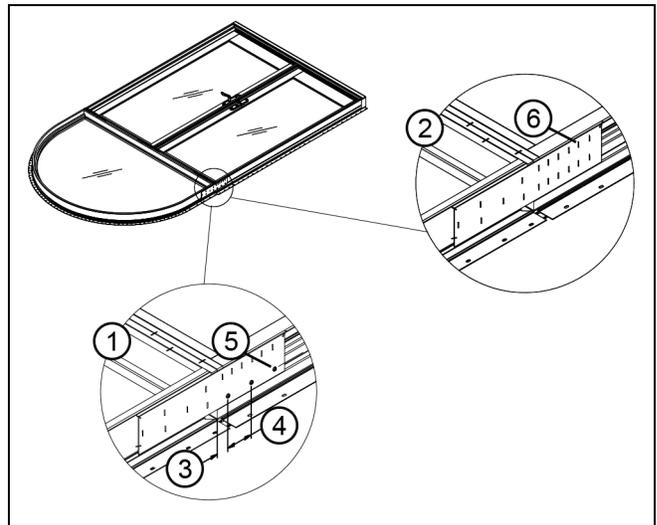

Figure 43
8. Center mulling tin over mullion and secure with 1/2" x 1/2" 16 gauge staples as shown in Figure 43.
9. On Inswing units, drill three pilot holes 3 1/8" (79) in from exterior face on each side of the door unit through mulling tin into the Ultrex jamb using a 7/64" (3) drill bit. Make sure not to drill past the first thickness of Ultrex. Secure with #8 x 3/8" screws provided